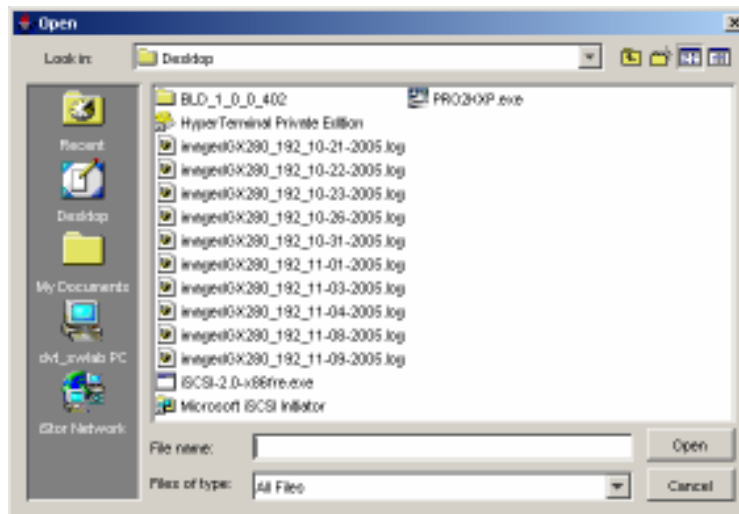

Figure 5-45. Open Dialog Box
3. On the **View** menu, click **Save Event Log Messages**. The Open dialog box appears (see Figure 5-45).